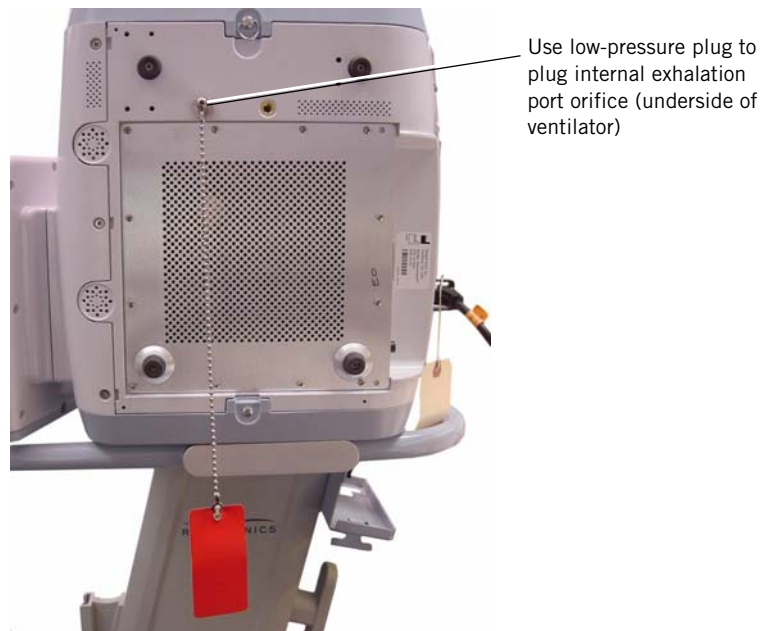

Figure 8-14: Plug Internal Exhalation Port Orifice
3. Plug the internal exhalation port orifice (Figure 8-14).
4. Plug the internal exhalation port orifice (Figure 8-14).